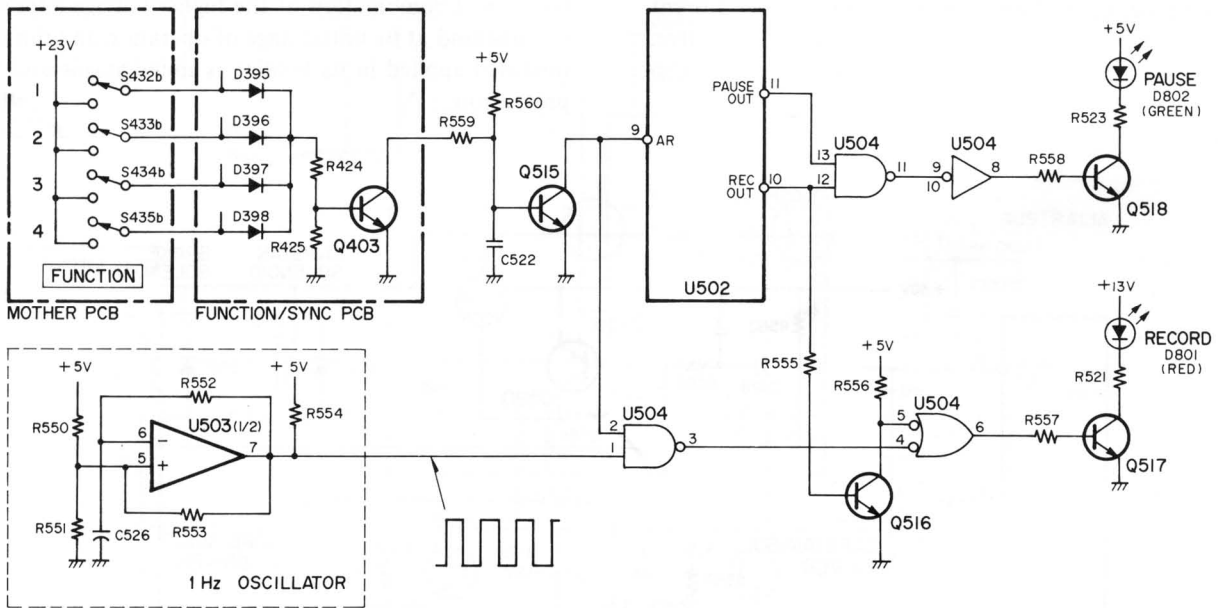

Fig. 6-12 LED driver circuit
When FUNCTION SELECT switch conductivity is obtained on at least one channel of CH1 to CH4, the base current of Q403 flows in Route ③ with Q403 conductive. Therefore, the low level REC MODE signal is supplied to the CONTROL PCB. (This signal supplies the system control IC with recordable signals with the Q515 cut off on the CONTROL PCB, and causes the RECORD LED to flash. . . See item 6-8-1 and Fig. 6-12.)